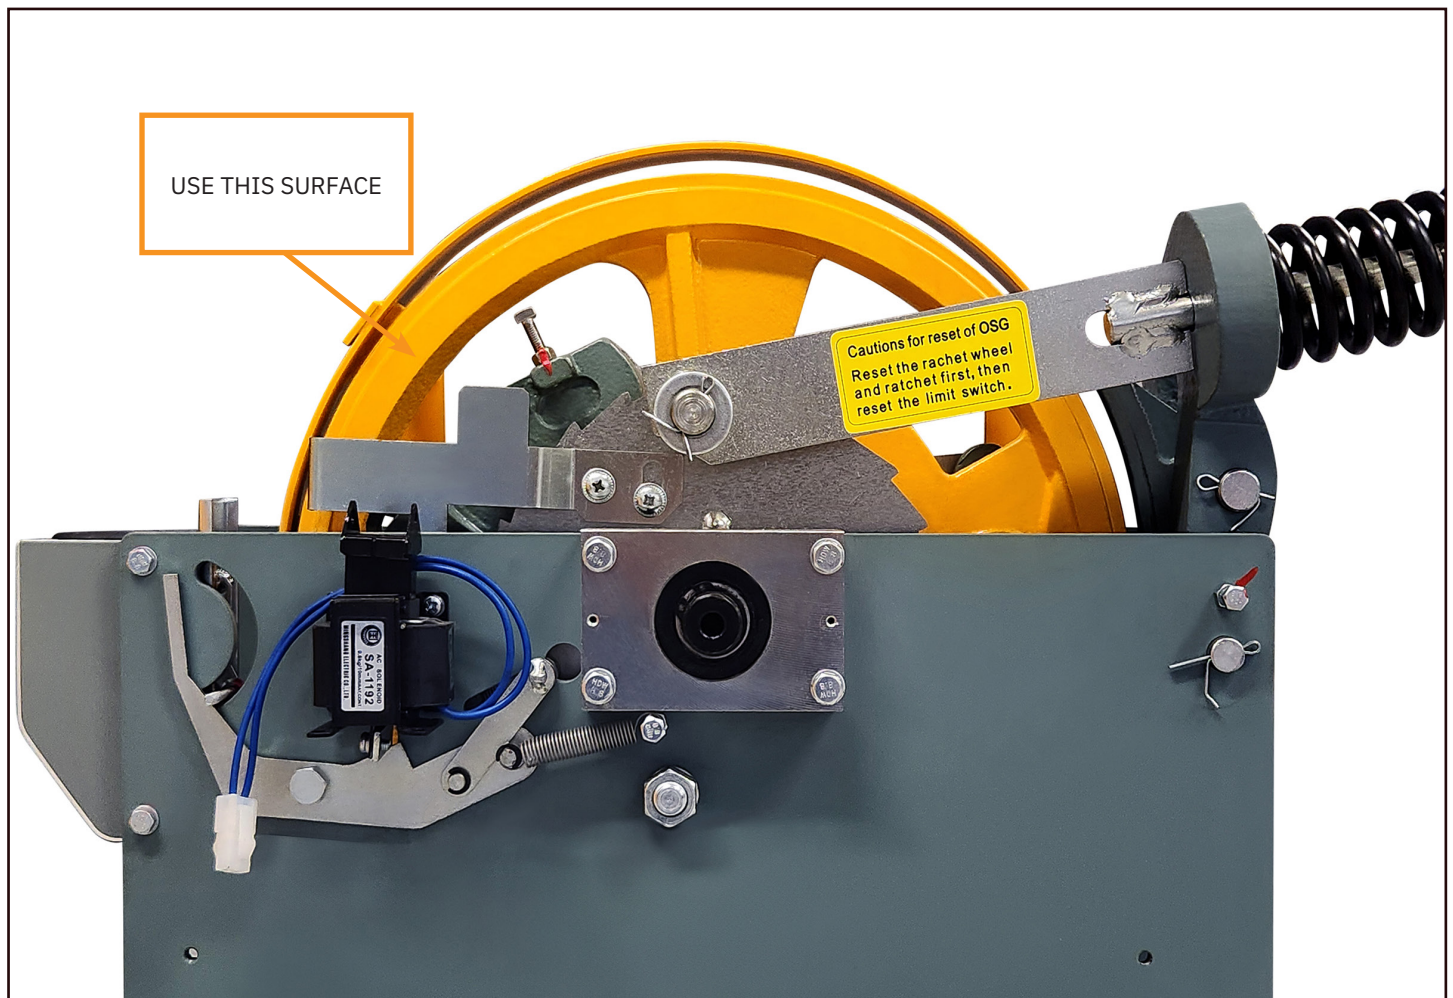

Figure 1
- With a rubber drive wheel held against the governor sheave (see figure 1), slowly spin the governor sheave in the opposite direction of the one indicated by the arrow painted on the housing (“UP” direction of the car).